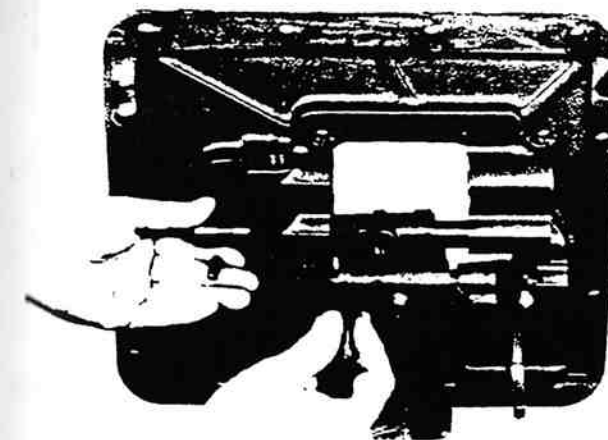

Figure 13-13. Removing Interlock Pin.
8. Move the center, 2nd-3rd speed shifting bar to the front and out of housing, removing the shifting yoke from bar. As the neutral notch in bar clears housing boss, remove the small interlock pin from bore in neutral notch (figure 13-13).